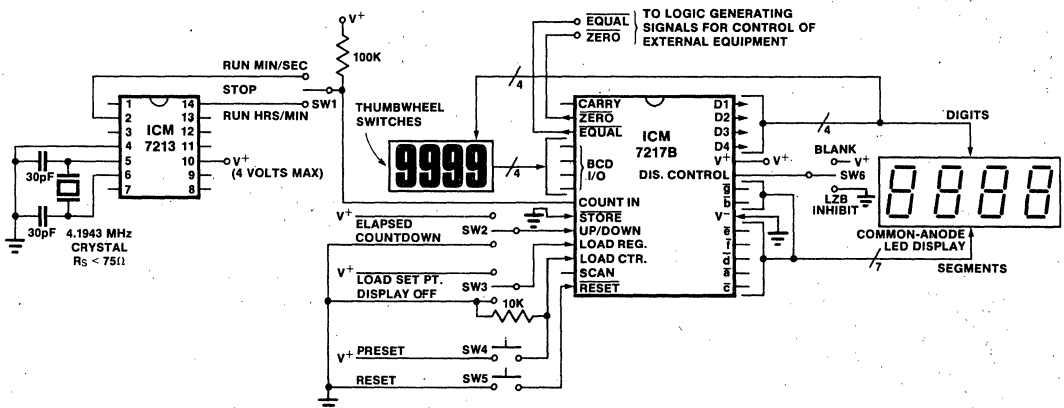

Figure 8: Precision Timer
3. PRECISION ELAPSED TIME/COUNTDOWN TIMER (Figure 8)